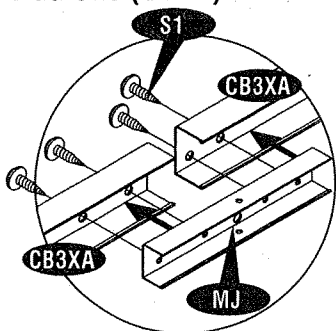

Fig.1
10. Assemble the center bands (CB3XA) with middle joining support (MJ) with (S1) Screws. See fig.1. Assemble (CB3XA) & (CB3A) together with (S3) bolt & nut. See fig. 2. Assemble (CB3A) & (CB2A) together with (S1) screws. See fig. 3. Add one (CB2A) for each Extension.